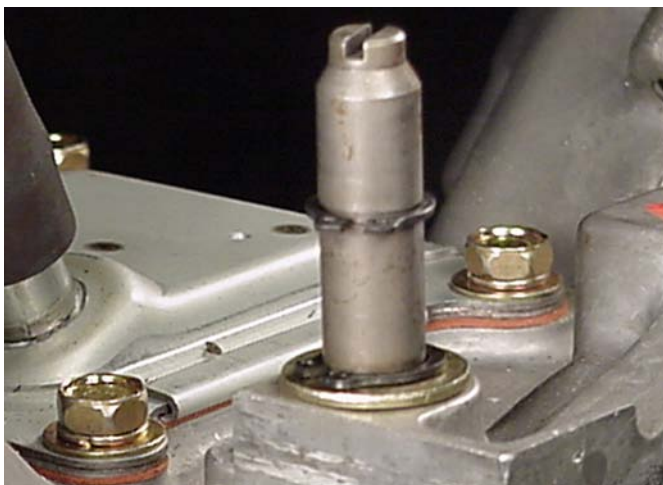

Fig. 63
4. Remove governor shaft, Fig. 63.